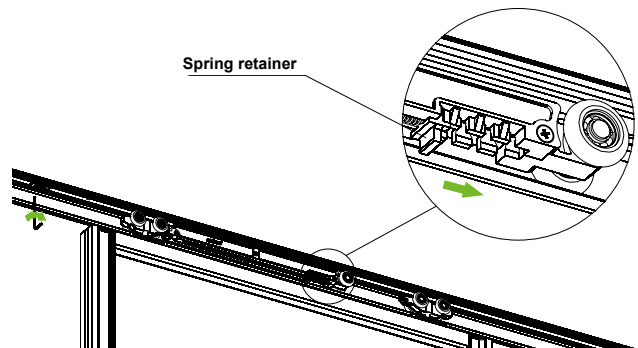

Fig. 4
❹ Adjust the position of the actuator and secure it with an allen key. The speed of the soft closer can be changed by moving the spring retainer (Fig. 4).